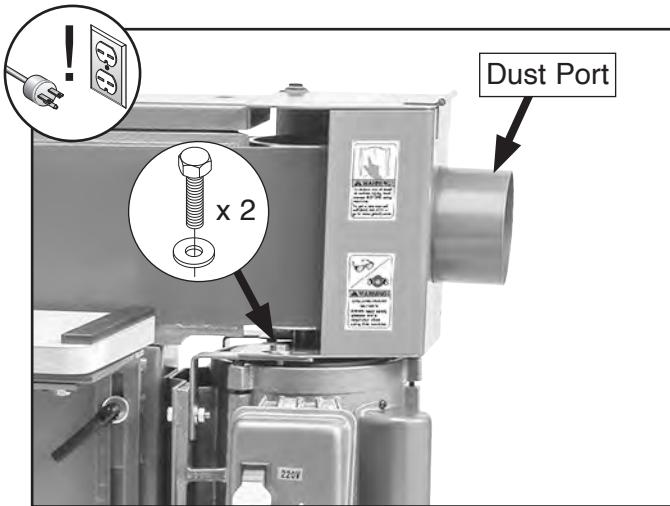

Figure 66. Location of dust port and fasteners.
2. Remove (2) hex bolts and flat washers shown in **Figure 66** to remove dust port.